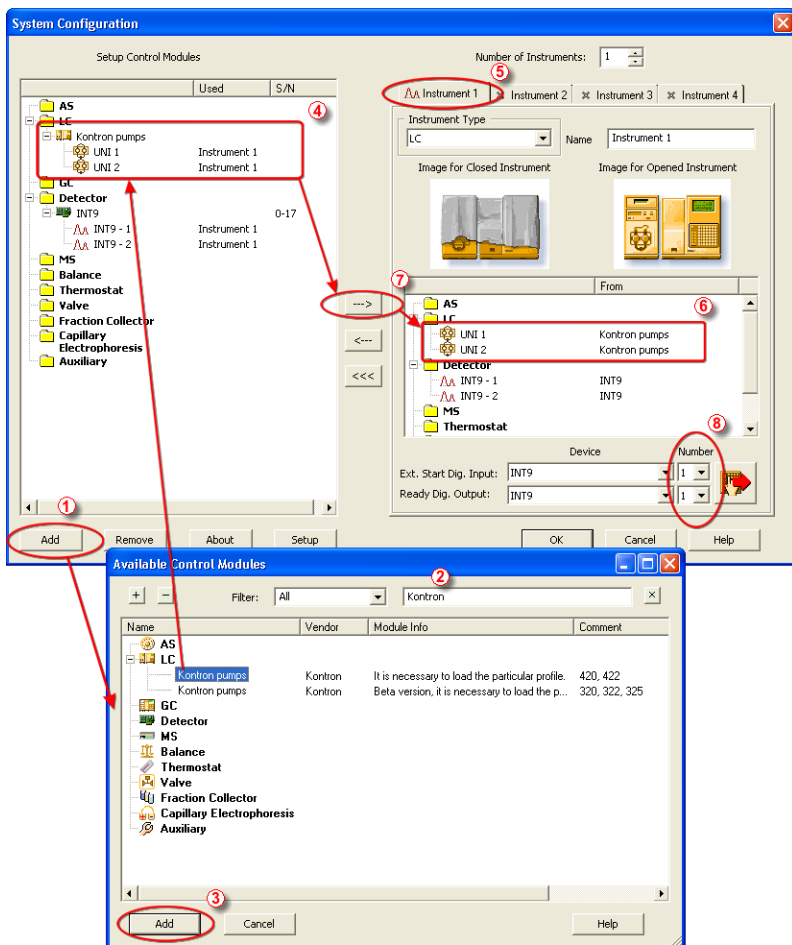

Fig 2: How to add Kontron pumps
- Press the **Add** button ① (see **Fig 2** on pg 5.) to invoke the **Available Control Modules** dialog.
- You can specify the searching filter ② to simplify the finding of the driver.
- Select the **Kontron pumps** item and press the **Add** ③ button.